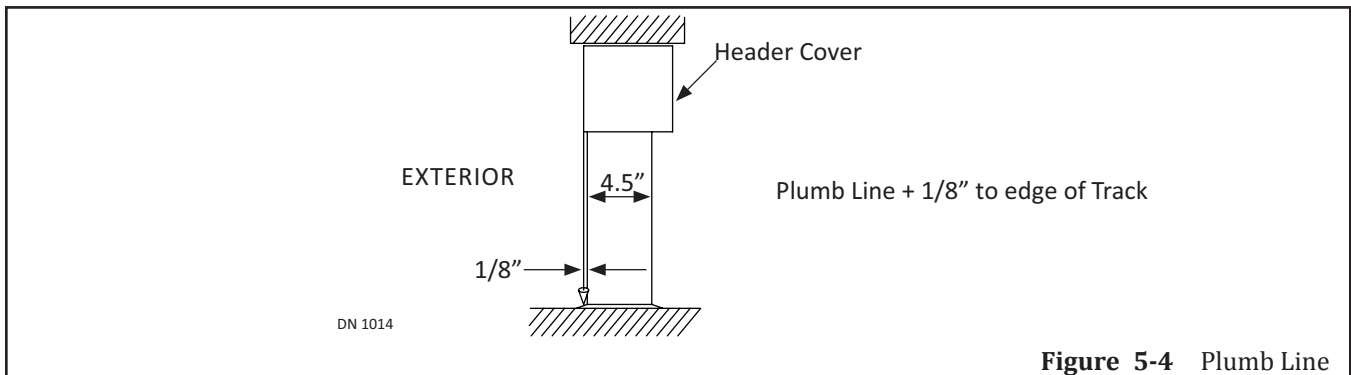

Figure 5-4 Plumb Line
9. Plumb the Floor Track by hanging a Plumb Bob from the Header. Please see Figure 5-4.